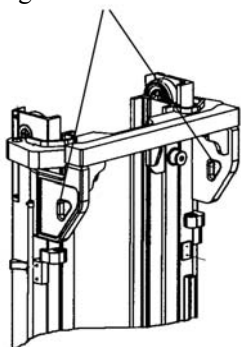

Figure 2-42
- (1) Hoisting for Lifting System. See Figure 2-42